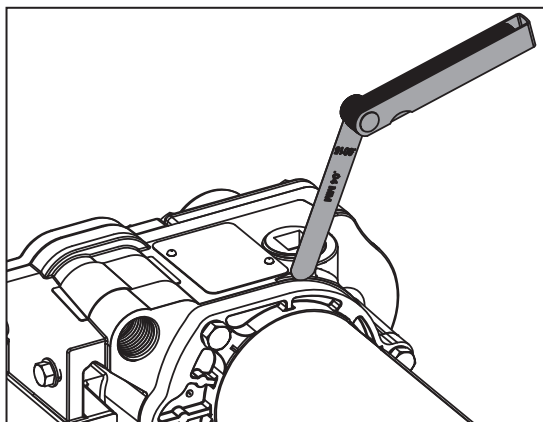

Figure 23
8. Tighten the motor to the pump housing. Check for proper installation by working a .0015 in. (.04 mm) feeler gauge around the motor flange (see Figure 23). The gauge should not fit between the flange and the housing.